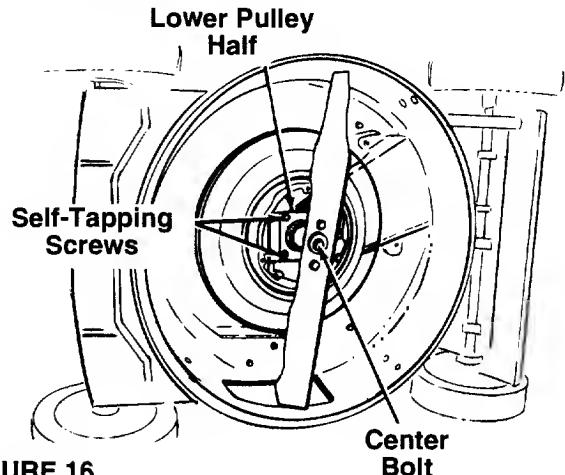
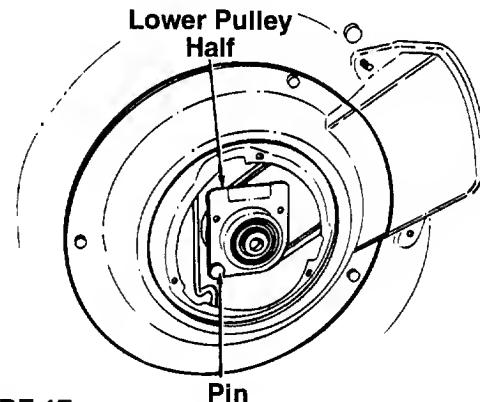

FIGURE 16.
FIGURE 17.
- Remove the center bolt which secures the blade to the crankshaft. See figure 16. Remove the blade and blade adapter.
- Remove the two-self-tapping screws which secure the lower pulley half. See figure 16. Rotate the lower pulley half 90° clockwise (see figure 17) and remove from the mower. Remove the belt from around the crankshaft.